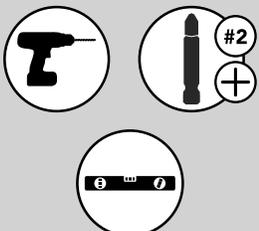

FIG. 3A
Attach both the Left and Right BLUM Slides to the face frame by using (2) #8 x 5/8" Phillips Flat Head Screw for each side. Attach the Rear BLUM Brackets to the back of the cabinet using (3) #8 x 5/8" Phillips Flat Head Screws for each bracket (See Fig. 3A).